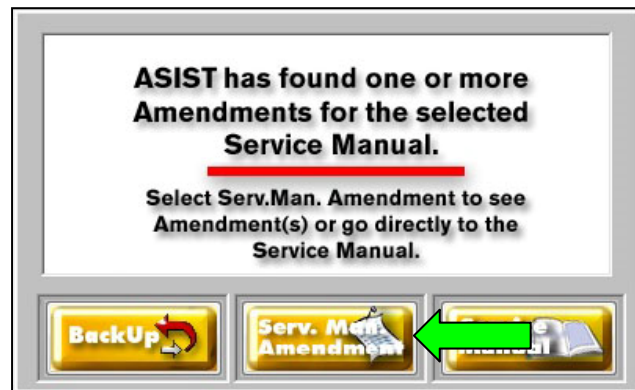

Figure 9
- "Serv. Man. Amendment" (Figure 9)